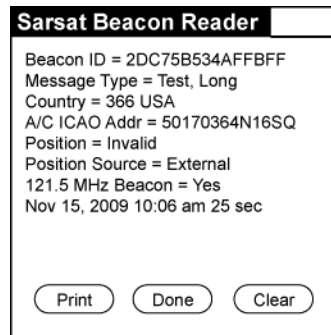

Figure 4 406 MHz Location Message without Position Data
- b) If the ELT is programmed with a location (long message) protocol and disconnected from the ELT/NAV Interface -B or the aircraft navigation system is not transmitting position data, the message will indicate “Position Invalid” in lieu of position data. See Figure 4 406 MHz Location Message without Position Data.
- g) Deactivate the ELT and read the test message broadcast at "turn-off". A message example is shown in Figure 4 406 MHz Location Message without Position Data on page 29.